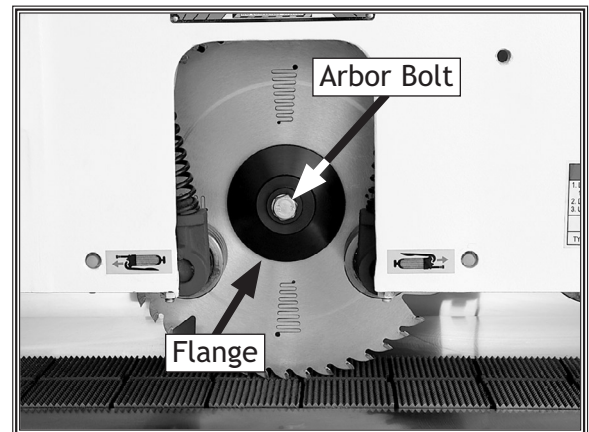

Figure 13. Arbor bolt and flange.
4. Position the arbor wrench behind the blade to hold the arbor stationary, then use the T-handle wrench to remove the arbor bolt and flange (see **Figure 13**).